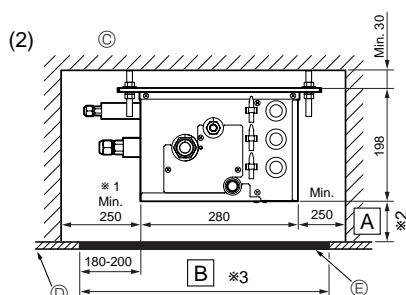
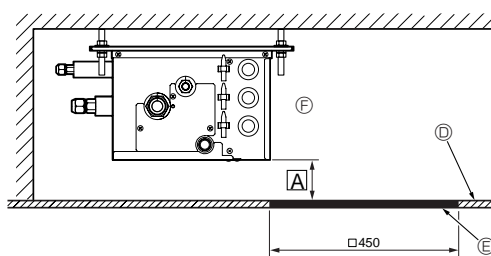

Fig.3-2
Fig.3-3
(2) Side View (Fig. 3-2, Fig. 3-3)
In the case of "□450", prepare a maintenance hole at a PCB side as it is shown in Fig. 3-3, and